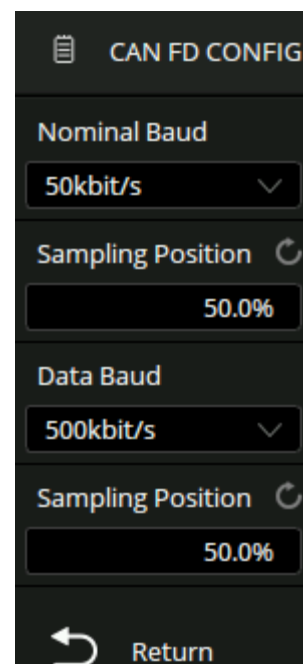

Figure 10.35 CAN FD Config
1. The **CAN FD** menu will be displayed. (Figure 10.35)